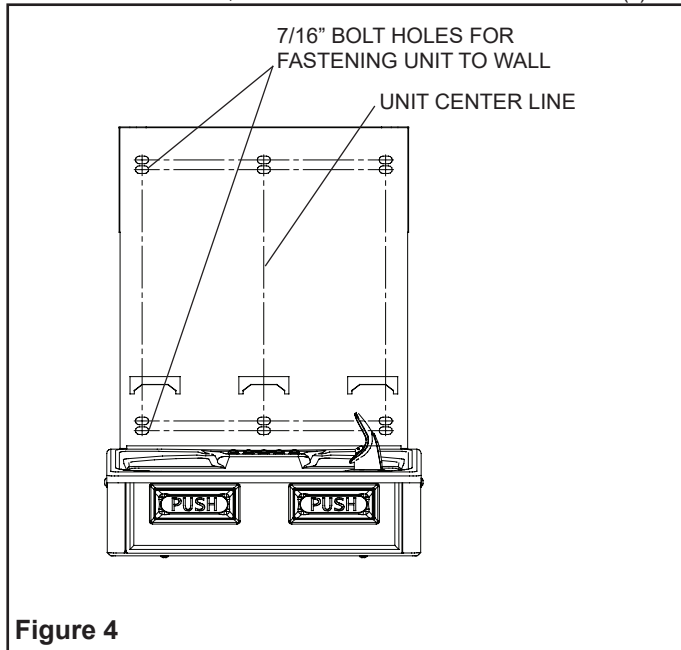

Figure 4
2. Remove wall mounting plate from Bottle Filler. Place wall plate against wall on top of basin. Center the wall plate side to side with the basin. Mark the six (6) mounting holes with a pencil (See Fig. 4).
4. Install wall mounting plate to wall using six (6) 7/16" (11mm) obround mounting holes (mounting bolts not included) (See Fig. 4). Use appropriate fasteners for your wall type.